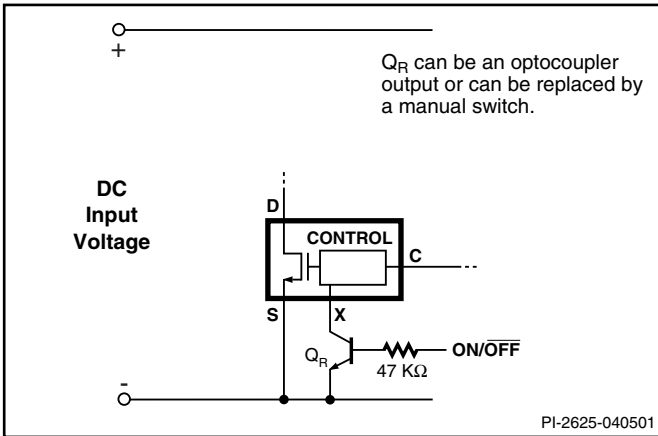
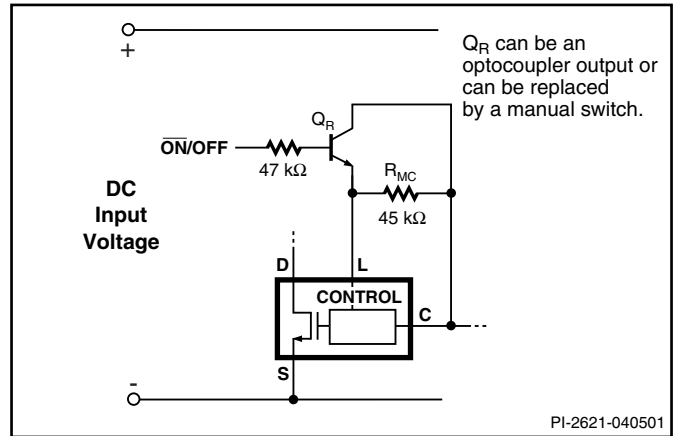

Figure 22. Active-on (Fail Safe) Remove ON/OFF.
Figure 23. Active-off Remote ON/OFF. Maximum Duty Cycle Reduced.
*TOPSwitch-GX* can be turned on or off by controlling the current into the LINE-SENSE pin or out from the EXTERNAL CURRENT LIMIT pin (Y, R or F package) and into or out from the MULTI-FUNCTION pin (P or G package) (see Figure 11). In addition, the LINE-SENSE pin has a 1 V threshold comparator connected at its input. This voltage threshold can also be used to perform remote ON/OFF control. This allows easy implementation of remote ON/OFF control of *TOPSwitch-GX* in several different ways. A transistor or an optocoupler output connected between the EXTERNAL CURRENT LIMIT or LINE-SENSE pins (Y, R or F package) or the MULTI-FUNCTION pin (P or G package) and the SOURCE pin implements this function with “active-on” (Figures 22, 29 and 36) while a transistor or an optocoupler output connected between the LINE-SENSE pin (Y, R or F package) or the MULTI-FUNCTION (P or G package) pin and the CONTROL pin implements the function with “active-off” (Figures 23 and 37).